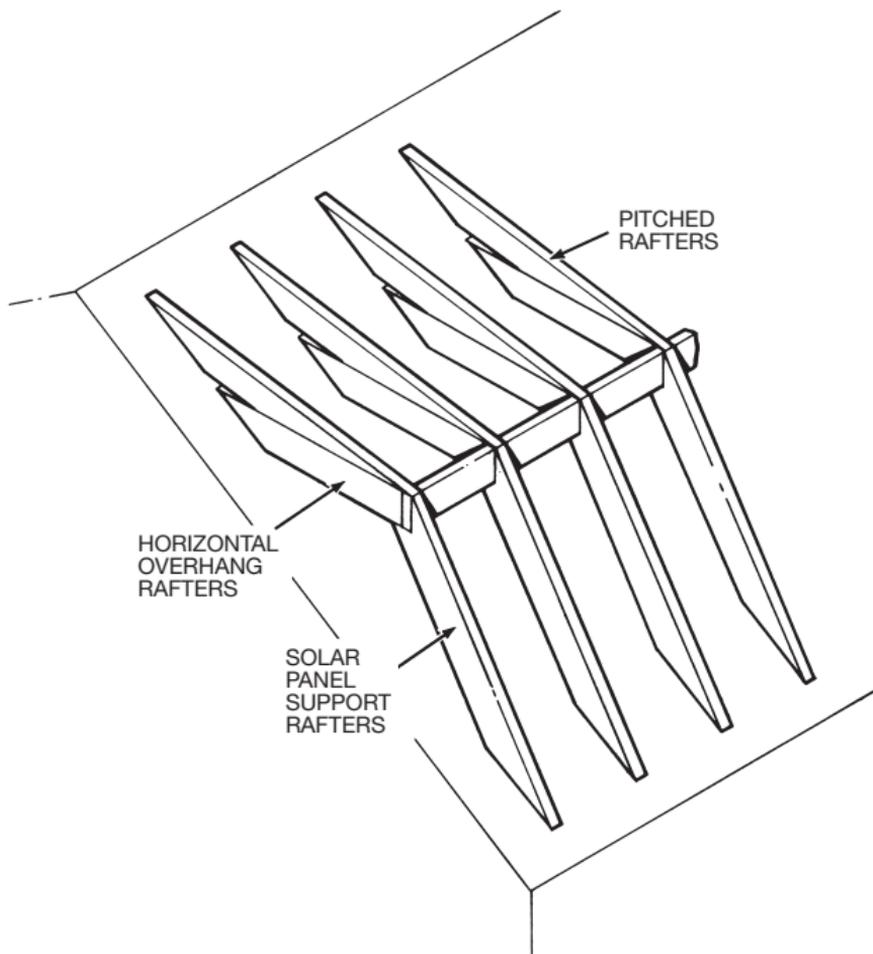

FIG. 20 A Rafter Support Structure for Solar Panels.
STEP 1. RAFTER CALCULATIONS: The pitch for the support rafters, which is really the desired tilt angle for the solar panels, will be needed. If known in degrees, convert it to the nearest inch rise so that the tables may be used. This pitch is found by adding 10 to 15 degrees to your latitude (since this is theoretically the best for heating). In our example, we need a 58° pitch or a 19 inch rise because the latitude of Milwaukee is 43°. (See Table C, page 35.) The angle of tilt is not critical, since the efficiency is not appreciably reduced by a small difference in tilt angle from optimum, thus the closest inch rise can be used (see Figures 20 and 21).
STEP 3. RAFTER PATTERN CUTS: If Figures 20 and 21 are carefully studied, the rafter pattern cuts can be easily made following the patterns that were laid out. Set your saw at 90° for all the cuts.